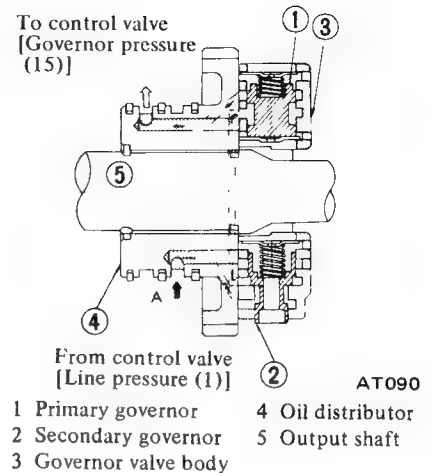

Fig. AT-95 Testing secondary governor
2. To disassemble secondary governor, remove spring seat, spring and secondary governor valve from valve body in this written order as shown in Figure AT-95.